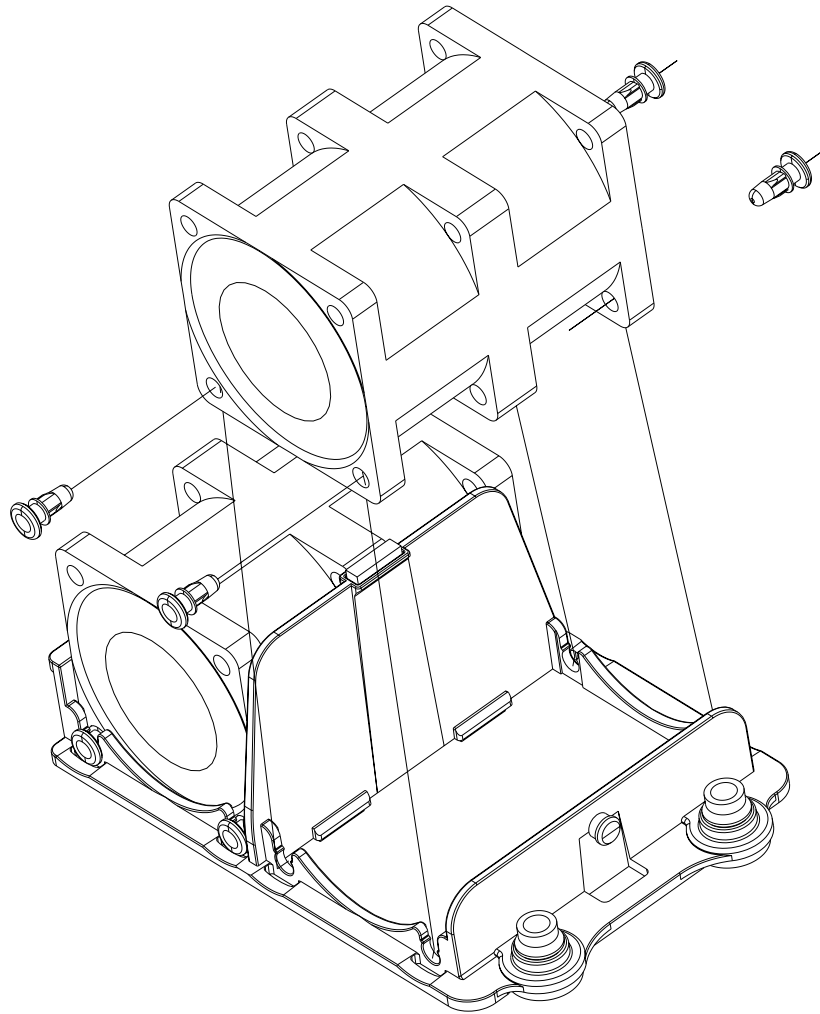

Figure 6-7 Individual Fan Remove/Replace Example
6. Place the new fan into the vacant space in the fan tray, while making sure the arrows on the top of the fan (indicating air direction) point in the same direction as the arrows on the other fans in the same fan tray. See Figure 6-7 on page 56 for a fan assembly example.